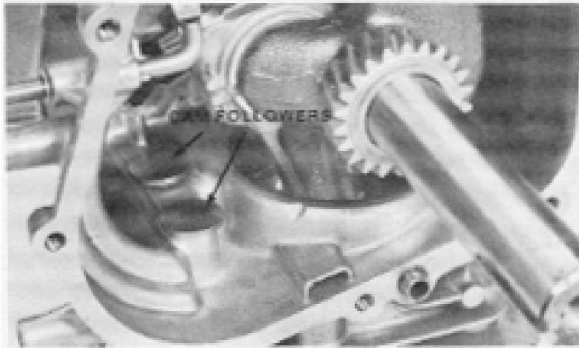

Figure 4-50
1. Install the cam followers. They are both the same, it makes no difference in which of the two openings they are installed. Oil before you insert them. See Fig. 4-50.